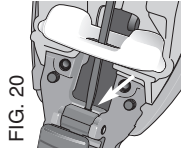

FIG. 20
1. Insert the tip of the driver/return assembly blade into the matching hole in the nosepiece (Fig. 20).